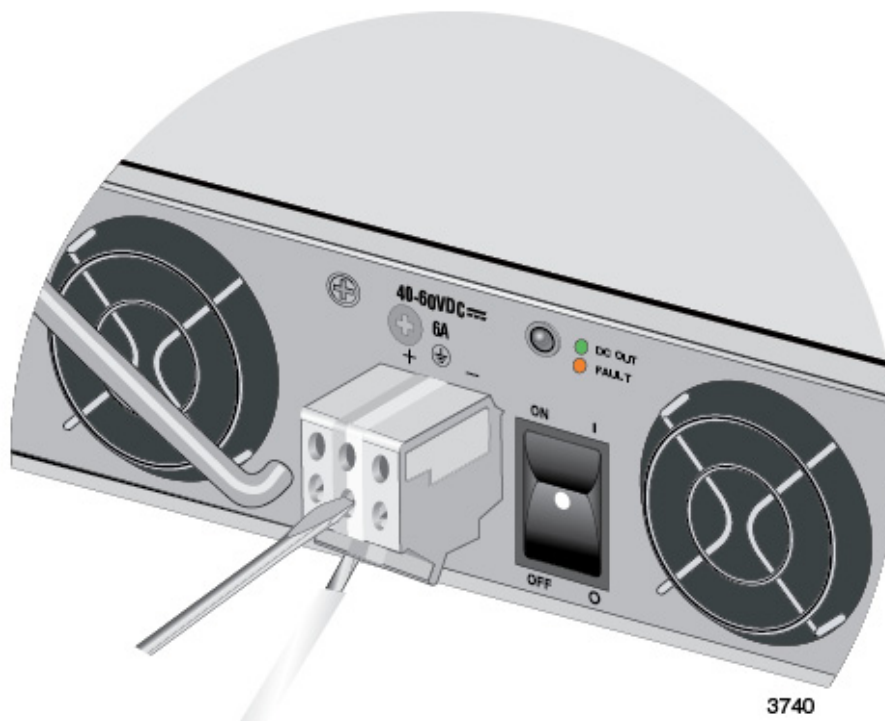

Figure 31. Connecting the Ground Wire to the DC Terminal Block
5. Insert the power supply ground wire into the middle connector of the DC terminal and tighten the connection with a flathead screwdriver. Refer to Figure 31.